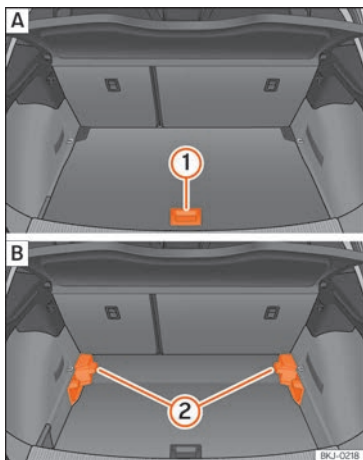

Fig. 139 Variable luggage compartment floor:
- To move from the low position to the high position, lift the floor using the handle **>>>** Fig. 139 **1**, and pull it back until the front of the floor has fully passed the supports **2**.
- To move from the high position to the low position, lift the floor using the handle **>>>** Fig. 139 **1**, and pull it back until the front of the floor has fully passed the supports **2**.
- Lift the variable floor in the high position using handle **>>>** Fig. 139 **1**, pull it up and push it towards the backrest of the rear seats until it folds along the hinge line and the movable part of the floor is resting on itself.